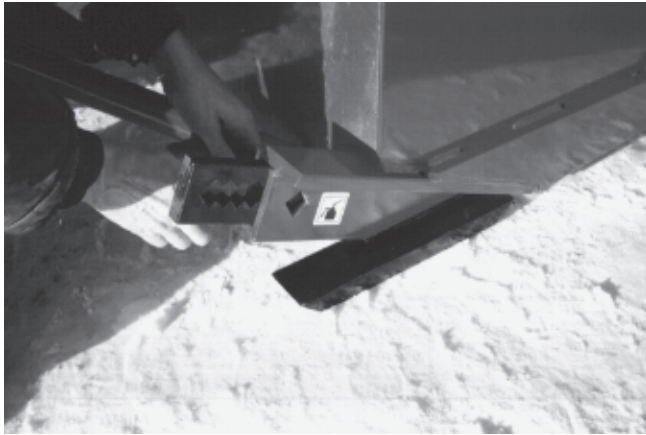

Figure 28
- 5) Adjust skid shoes according to ground conditions (Fig. 28).